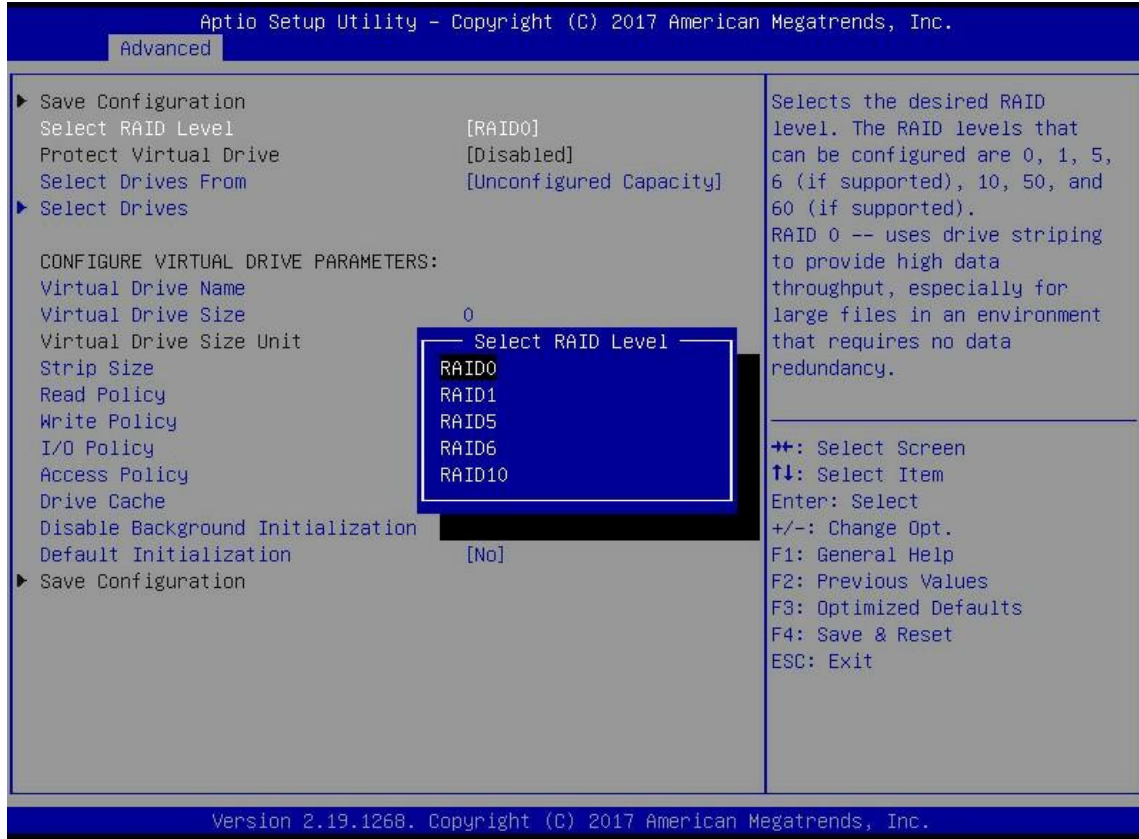

Figure 6-9
c) Enter the interface shown in Figure 6-9, select select RAID level, set RAID level, and press enter.